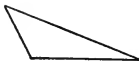

FIG. 23.
**53.** A **scalene** triangle (Fig. 23) is one having no two of its sides equal.